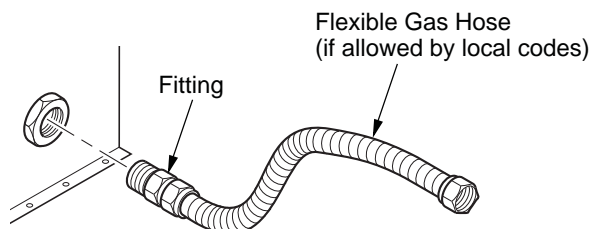

Figure 11 - Attaching Flexible Gas Hose to Heater
1. Apply pipe joint sealant lightly to male threads of the fitting to be threaded into gas regulator. Connect approved flexible gas hose to gas regulator of heater (see Figure 11).
4. Disconnect gas line from heater base as shown in Figure 11, page 10.